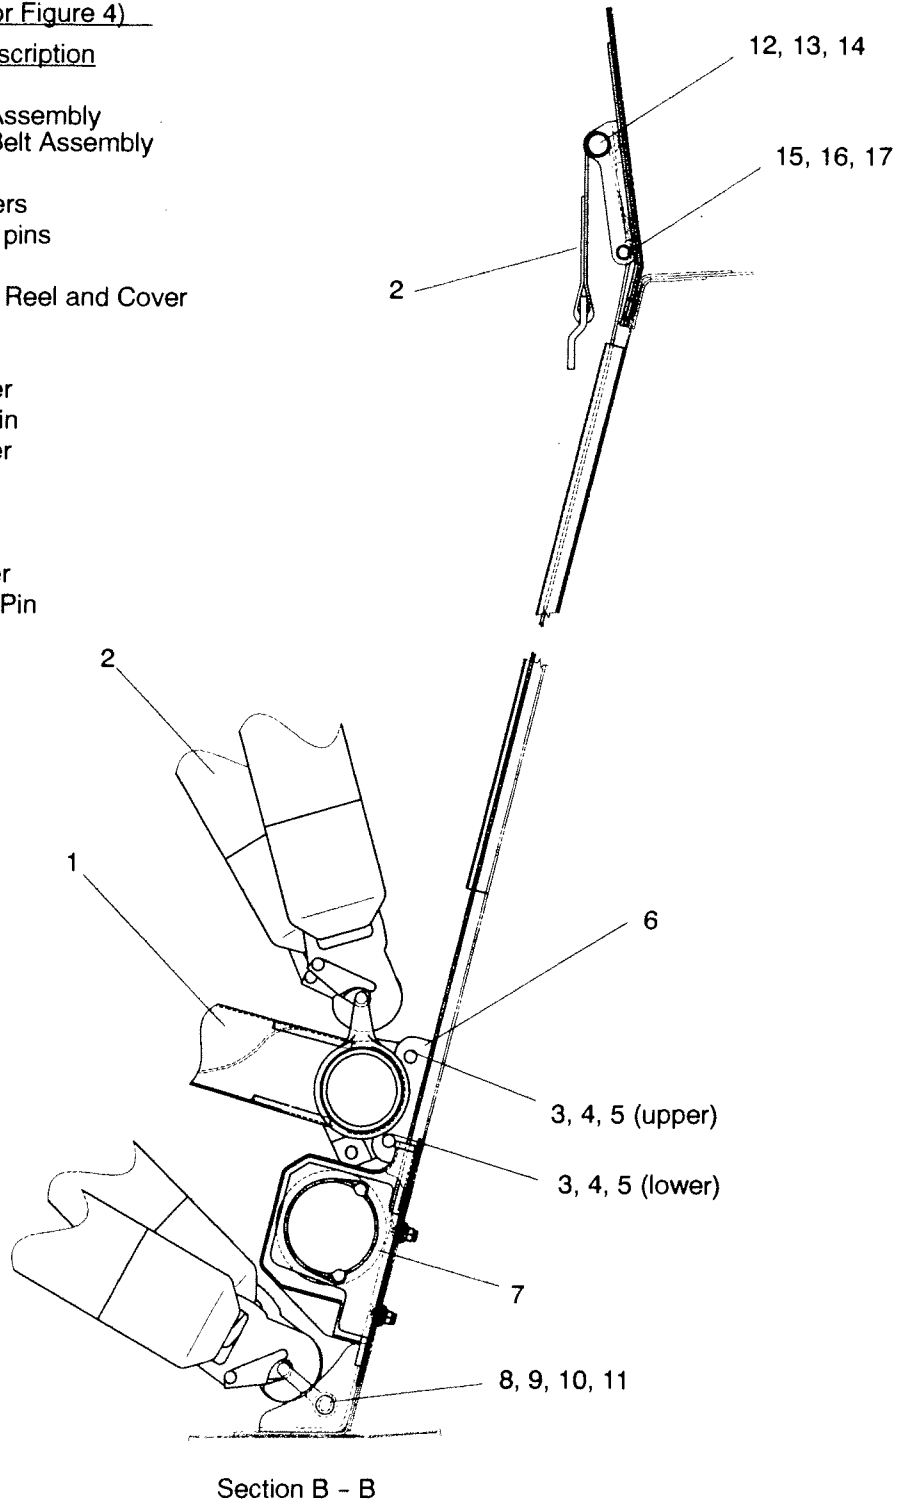

Figure 4 Seat Belt Assembly Details
Legend (for Figure 4)
- b) Disconnect seat belt assembly (2, 4 places) from seat assembly (1). Refer to Figure 4.